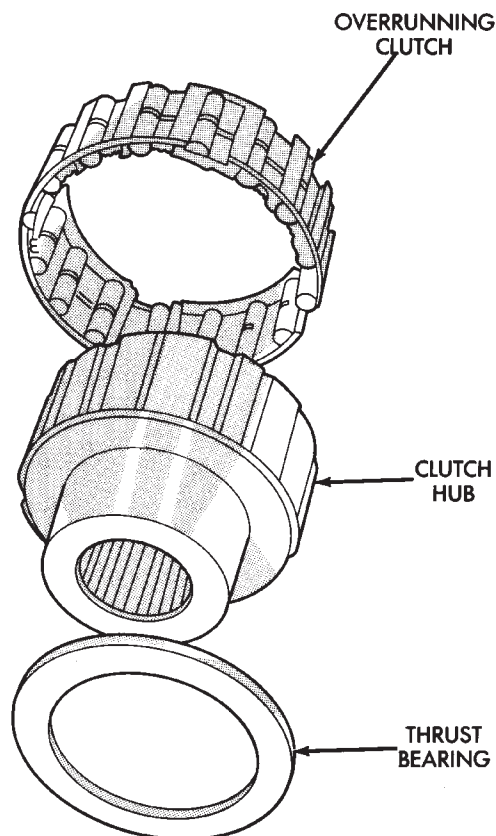

Fig. 321 Overrunning Clutch Components
- (13) Remove thrust bearing from overrunning clutch hub (Fig. 321).
- (14) Remove overrunning clutch from hub (Fig. 321).